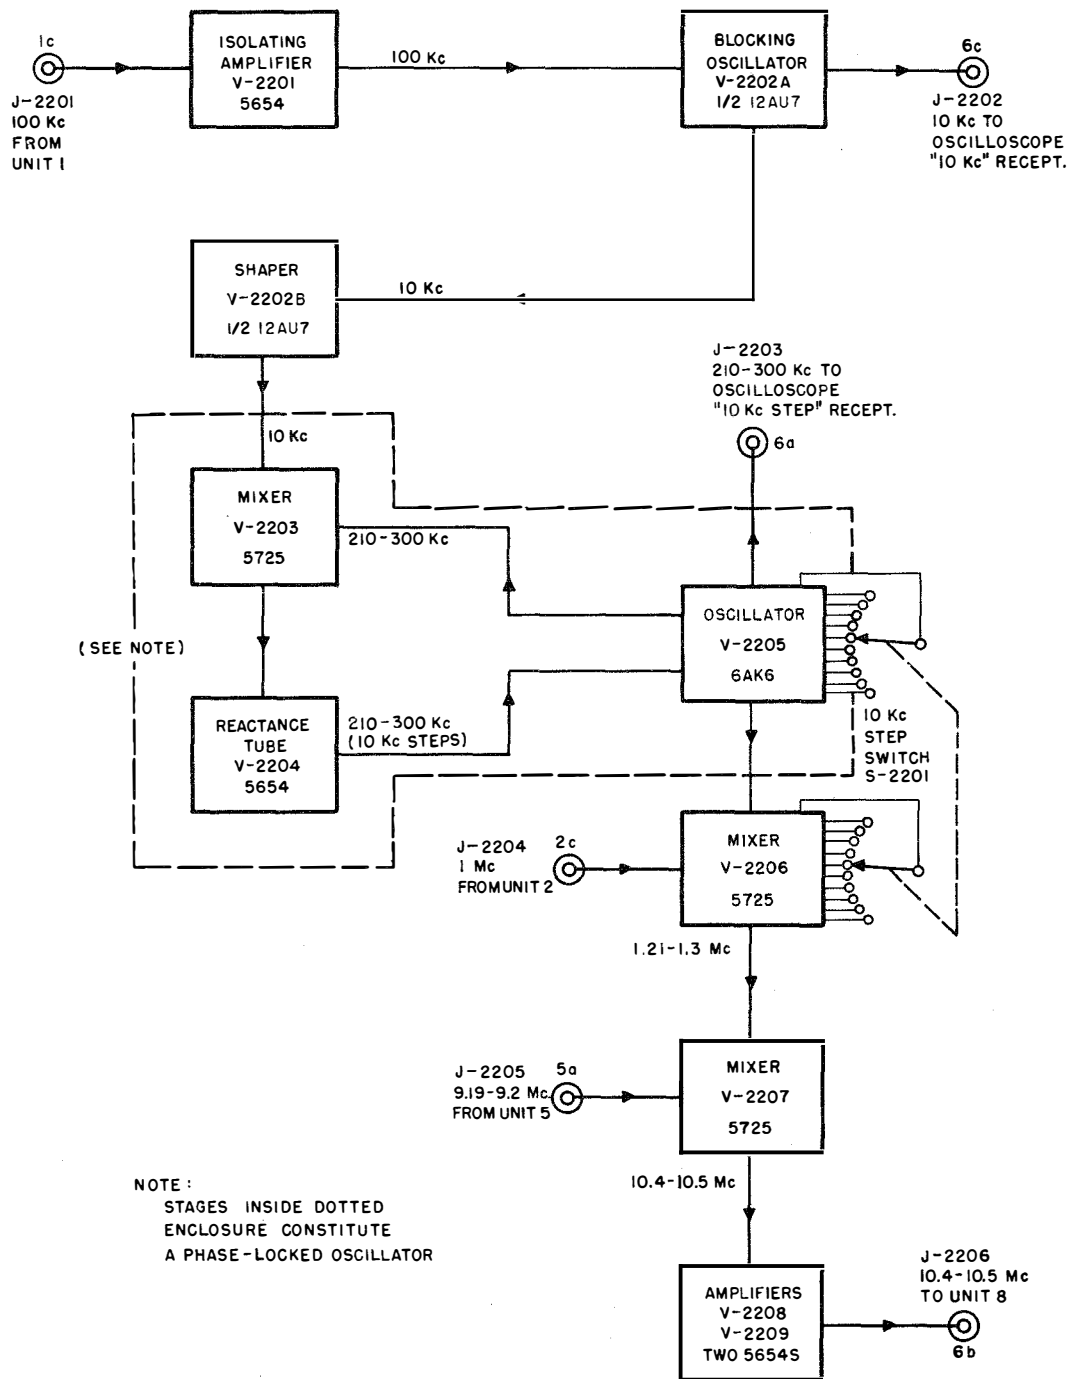

Figure 2-15. RFO Unit 6, Electronic Frequency Converter (10-Kc Step Generator), Block Diagram
b. ELECTRONIC FREQUENCY CONVERTER Z-2204 (10-KC STEP GENERATOR, UNIT 6).—Unit 6 (figure 2-15) produces and feeds to unit 8 an output of 10.4 to 10.5 mc, variable in steps of 10 cps. In addition, it generates and feeds to the oscilloscope test receptacles a 10-kc output and an output of 210 to 300 kc, variable in steps of 10 kc. The unit contains a 10-kc step phase-locked oscillator comprising mixer V-2203, reactance tube V-2204, and oscillator V-2205. The output from these units is synchronized by the 100-kc output from the crystal oscillator (unit 1). To insure the stability of the generated frequencies, the three tubes of the phase-locked oscillator and V-2202, the blocking oscillator and shaper, use a regulated filament supply. The output of oscillator V-2205 (210 to 300 kc) is mixed with a 1-mc signal from unit 2 by mixer V-2206. The sum, 1.21 to 1.3 mc, is fed to mixer V-2207 and mixed with a 9.19- to 9.2-mc signal from unit 5. The sum, 10.4 to 10.5 mc, is fed to amplifiers V-2208 and V-2209 and then delivered to unit 8.